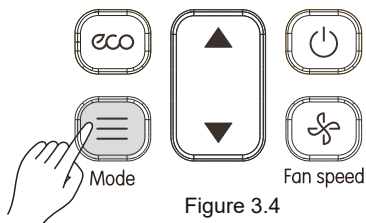

Figure 3.4
1) Press  (see Figure 3.4). Display screen shows the operating